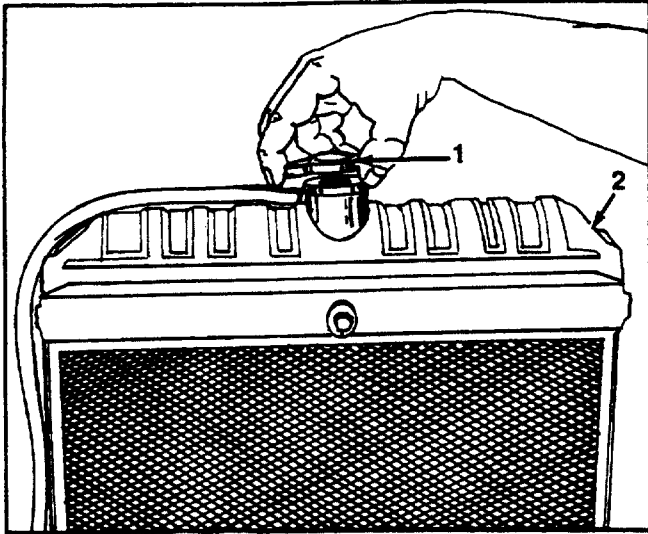

FIGURE 1.
2. Remove the radiator cap. See figure 1.